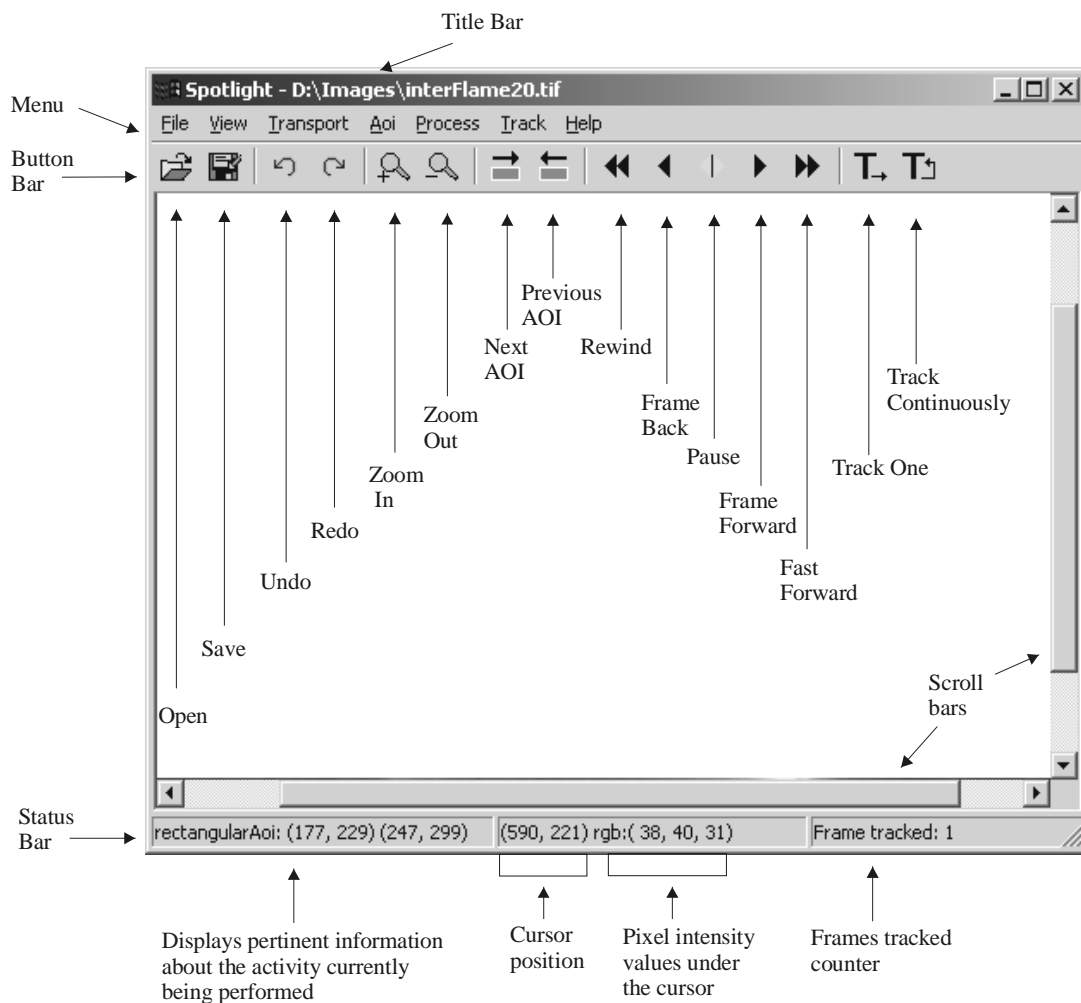

Figure 1. – Spotlight window.
The first image in a sequence of disk files is loaded using the “File→Open” command on the menu bar (or the equivalent button on the button bar, see Figure 1).
The tracking process can be performed one frame at a time by selecting the “Track→Track 1 Frame” menu item (or by clicking on the equivalent button on the button bar: the button with the “T” and the straight arrow, see figure 1). This is primarily used for making sure that everything is set up properly before tracking a series of images.
However, the main purpose of Spotlight is performing tracking for an entire series of images. This is initiated by selecting the “Track→Track Continuously” menu item (or by clicking on the equivalent button on the button bar: the button with the “T” and the arrow that loops back to point at the “T”, see figure 1). The tracking process will repeat until it runs out of numbered images, until the selected last frame is reached, or until it is stopped manually (by clicking the “Stop” button). Tracking can be stopped and restarted as many times as is necessary.
**Open** – loads image from the hard disk. The image file formats supported are tif, tga, bmp, gif, jpg, png. This menu item has a corresponding button on the button bar, labeled “Open” (see figure 1).
**Save As** – saves the entire image to a hard disk. The image file formats supported are tif, bmp, gif, jpg, png.. This menu item has a corresponding button on the button bar, labeled “Save As” (see figure 1).
**Undo** – the Undo menu item allows the user to “undo” any image processing operation performed under the Process menu. If multiple imaging operations were performed, then multiple execution of the Undo menu item will undo the imaging operations one by one. This function has a corresponding button on the button bar (see figure 1).
**Redo** – the Redo menu item allows the user the “redo” any operation that is re-doable. The Redo and Undo operations are opposites of one another. If an image processing operation was performed and is re-doable, the Redo operation will execute another iteration of the imaging operation. This function has a corresponding button on the button bar (see figure 1).
**Zoom In** – zooms the image in 2x each time the menu item is selected. The pixel information in the image is not affected, only the view is. This function has a corresponding button on the button bar (see figure 1).
**Zoom Out** – zooms the image out 2x each time the menu item is selected. The pixel information in the image is not affected. This function has a corresponding button on the button bar (see figure 1).
**Next** – selecting this menu item (or the corresponding button on the button bar, see figure 1), will select the next AOI in the sequence of AOIs displayed. When an AOI is selected, it's graphic becomes highlighted and all other AOIs become disabled. The order of the AOI sequence is the order in which the AOIs were created. Pressing TAB key is a shortcut for this menu item.
**Previous** – selecting this menu item (or the corresponding button on the button bar, see figure 1), will select the previous AOI in the sequence of AOIs displayed.